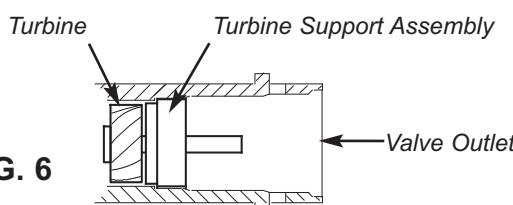

FIG. 6
9. Make sure the turbine assembly spins freely in the "out" port of the valve (See Figure 6).